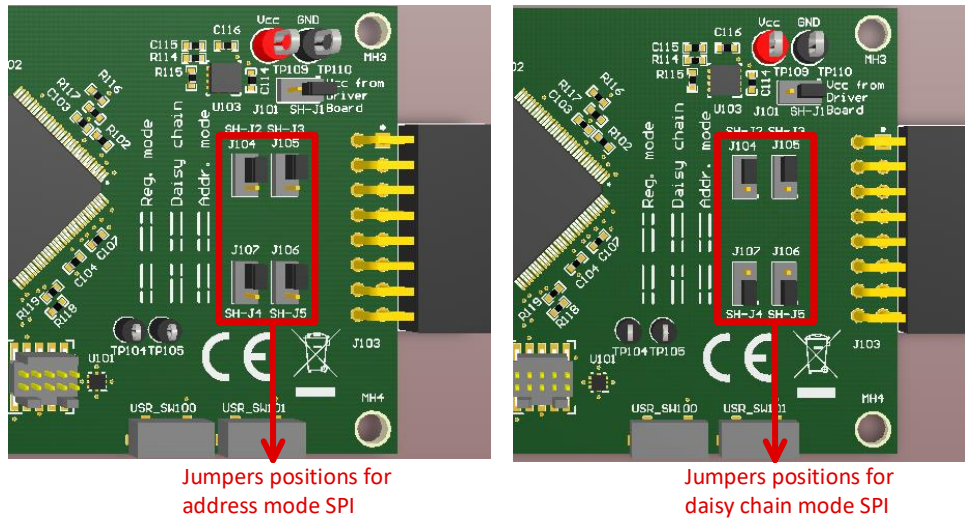

Figure 2. Jumper Settings for EVM MCU Daughter Board (Address Mode SPI and Daisy Chain Mode SPI)
For testing with address mode or daisy chain mode SPI, the four jumper should be set as in Figure 2 left graph or right graph.
1. If using daisy chain mode SPI, the MCU board jumpers need to be configured as in Figure 2 right graph, then power up the supplies and the GUI should detect one EVM board, select "Daisy chain" and click "Finish"
1. If using address mode SPI, the MCU board jumpers need to be configured as in Figure 2 left graph, then power up the supplies and the GUI should detect one EVM board, select "Address mode" and click "Finish"